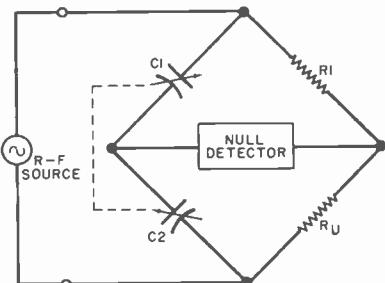
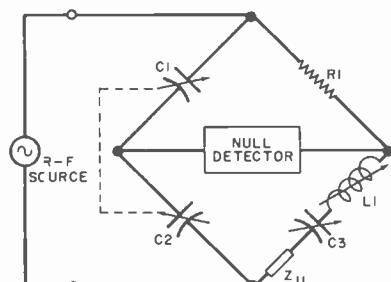

Fig. 1. Basic r-f bridge uses dual differential capacitor but gives only resistive information.
Fig. 2. More sophisticated bridge can measure reactance as well as resistances.
**About the Circuit.** The schematic diagram of a basic r-f bridge is shown in Fig. 1. It obviously resembles the classic Wheatstone bridge, which has four resistive arms. Two of these arms are usually derived from a potentiometer. The r-f bridge, however, employs a dual differential variable capacitor ( $C1C2$ ) so that measurements can be performed over a wide range of frequencies. If a potentiometer were used, its frequency-dependent intrinsic reactance would cause the bridge to yield false results.
The bridge in Fig. 1 will only measure the unknown's resistive component. More complete information about the unknown (including its reactance) can be obtained by measuring it on the bridge shown in Fig. 2. This circuit re-
sembles that of Fig. 1, but two components ( $C_3$  and  $L_1$ ) have been added to the bridge's lower right arms. To underscore the bridge's greater measuring facilities, the unknown is no longer represented as a resistance ( $R_U$ ), but as a general impedance ( $Z_U$ ).
As in Fig. 1, dual differential capacitor  $C_1C_2$  is used to measure the real (resistive) component of the unknown com-